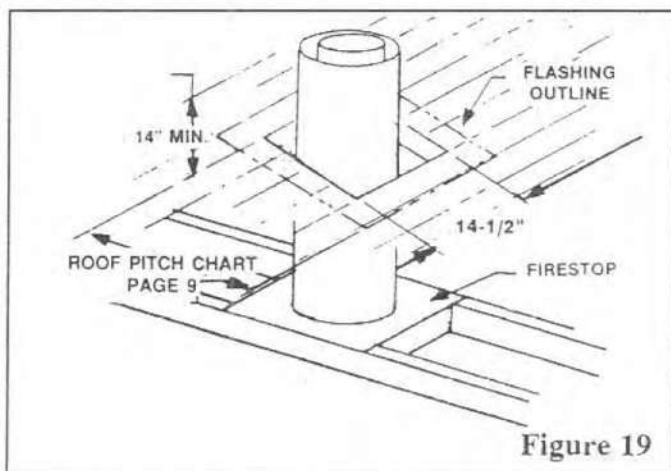

Figure 19
**STEP 5:** Cut the hole in the roof, then uncover the pipe and add sections until the chimney extends a minimum of 14 inches above the highest point of the roof cutout (Figure 19).
**STEP 6:** When the clearance between outer pipe and roof joist is less than 2", a roof joist shield (RJS-8D) is required. Slide the roof joist shield over the outer pipe. It must be positioned to cover the joist at all points around the chimney pipe. If necessary, trim the shield slightly to match the slope of the roof. Attach the shield to the joists using the straps provided (see Figure 19).
**STEP 7:** Position the flashing over the chimney and flat on the roof. Mark an outline of the flashing on the roof and remove the flashing. Remove all nails within the outlined area (Figure 19)